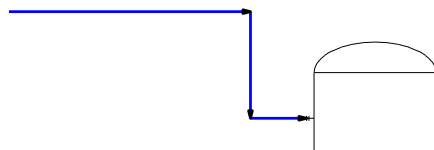

Figure 2-58 Reflux line connected to the vessel
4. Create another primary line by specifying the start point at 4,17. It should be similar to the line shown in Figure 2-58. Assign tag **4"-CS150-P-1000** to the line.